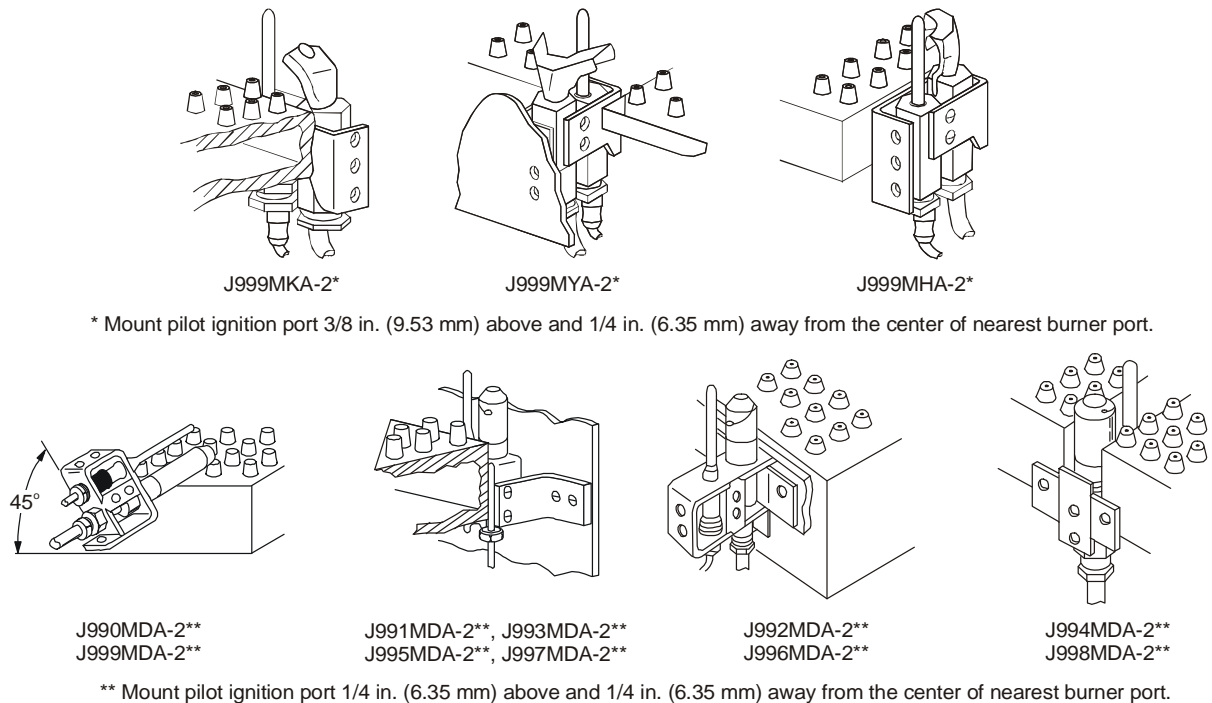

Figure 1: Possible Mounting Positions
Representative types of mounting with standard pilots are illustrated in Figure 1. Dimensions are approximate and may vary, provided the requirements of good ignition are met.
- Locate the pilot burner in a position that has a fixed relation to the main burner (see Figure 1).